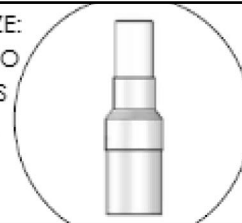

Figure 24 - Transitioning from 3" to 2" Vent Pipe
- For 2" installations, install the reducing coupling in a vertical section of pipe. At least a 6" length of 3" pipe **MUST BE INSTALLED** before reducing to 2". See Figure 24.